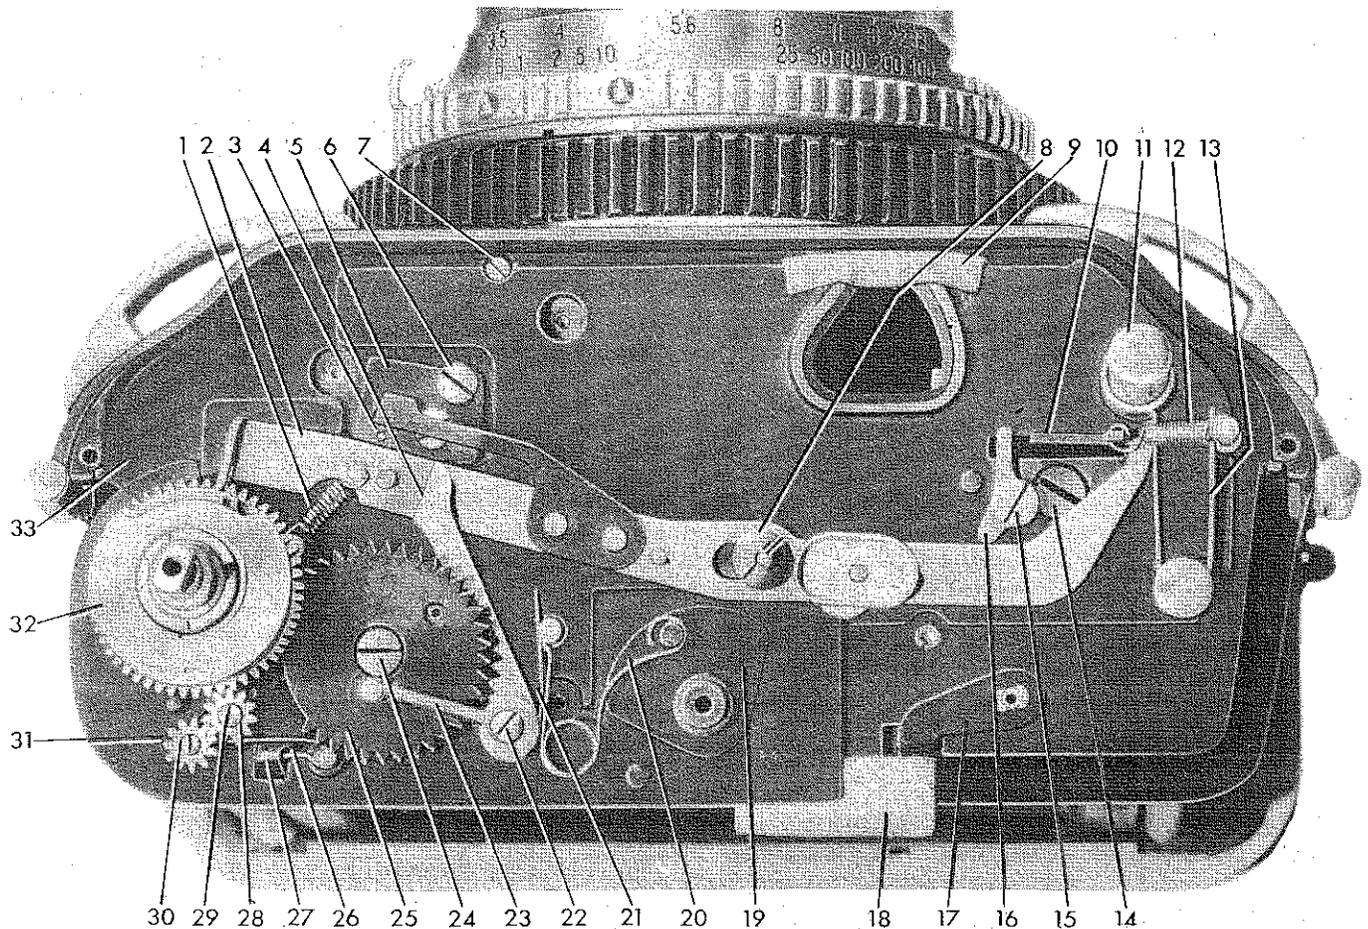
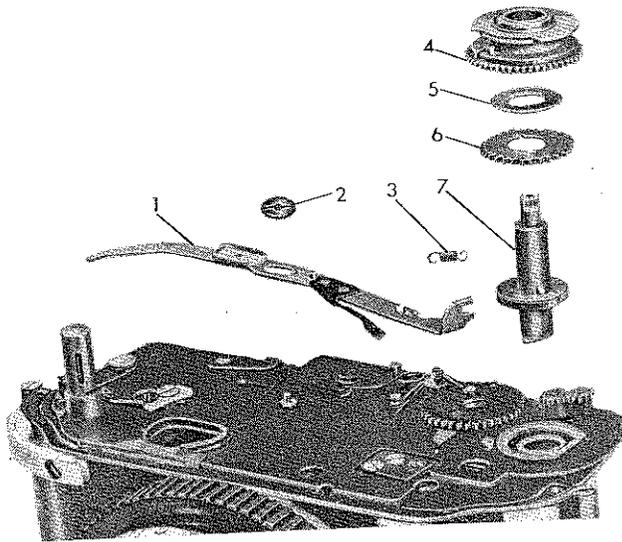

Figure 28—Mechanism Plate and Parts on Mechanism Plate
Figure 29—Parts on Mechanism Plate, Exploded from Camera
(5) As soon as the range finder plate is removed, the range finder couplet bar (15, figure 22) beneath the mechanism plate will drop down. In order to prevent the range finder adjusting screw bracket (17, figure 22) from catching on the couplet bar and throwing the range finder out of adjustment, turn the upper range finder coupler arm (17, figure 28) toward the back of the camera. Then, pushing up on the range finder couplet bar, turn the upper range finder coupler arm back toward the camera until it fits in the slot in the mechanism plate, and wedge it in place. The wedging
is most conveniently accomplished by inserting a small tapered wood block (18, figure 28) in the channel to the left of the upper range finder coupler arm in which the top of the camera back fits.
i. PARTS ON MECHANISM PLATE. (See figure 28.)
(1) Unhook the safety lever spring (1) where it hooks on the safety lever assembly (2) near the left end.
(2) Remove the safety lever to plate stud nut (8) and lift off the safety lever assembly (2).
(3) Lift off the safety control cam complete (4, figure 29) and the key complete (7, figure 29) together with the key post washer (5, figure 29) and the key post gear (6, figure 29).